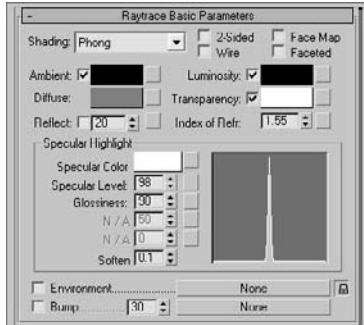

Figure 11.46
9. In the Specular Highlights group, change the Specular Level to 98 and Glossiness to 90, as shown in Figure 11.46.